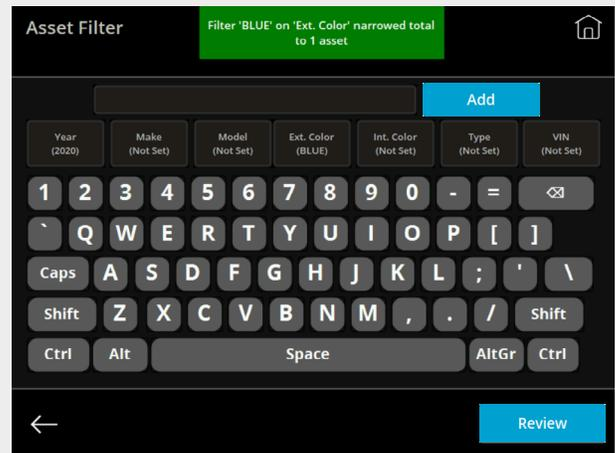

Fig. 53 – Asset Filter screen with two filters applied
- 🔑 The example continues in Fig. 53. The Year is filtered on “2020” and the **Ext. Color** is filtered on “BLUE,” which narrows the results to one single asset.